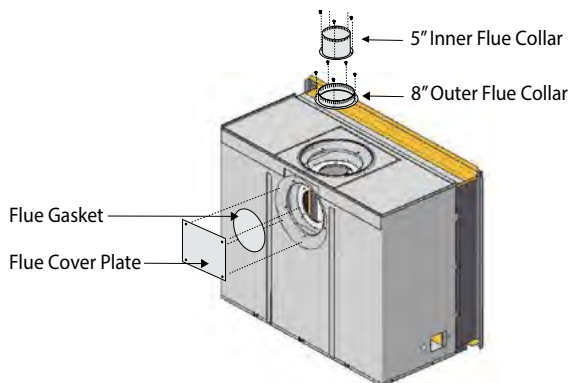

Figure 8. *Flue cover and collar removal, Top Vented fireplace.*
1. **Remove the Rear flue cover and gasket (5" and 8") on the flue outlet, as shown in Figure 8.**
2. **Next, Remove the Top flue collar's (5" and 8") on the flue outlet, as shown in Figure 8.**